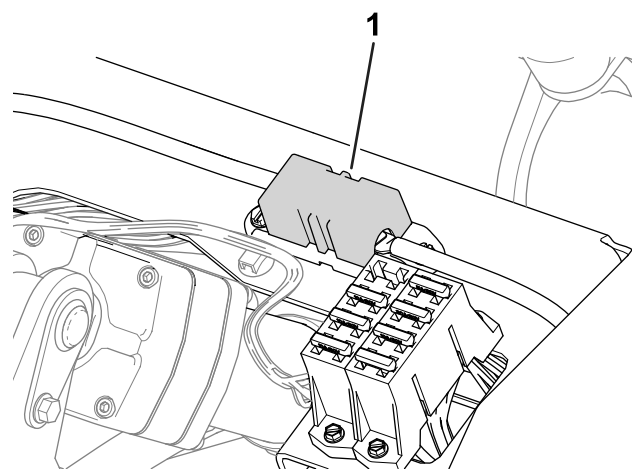

Figure 47
- The fuses for the right wheel motor (60 A) are located under the seat (Figure 47).